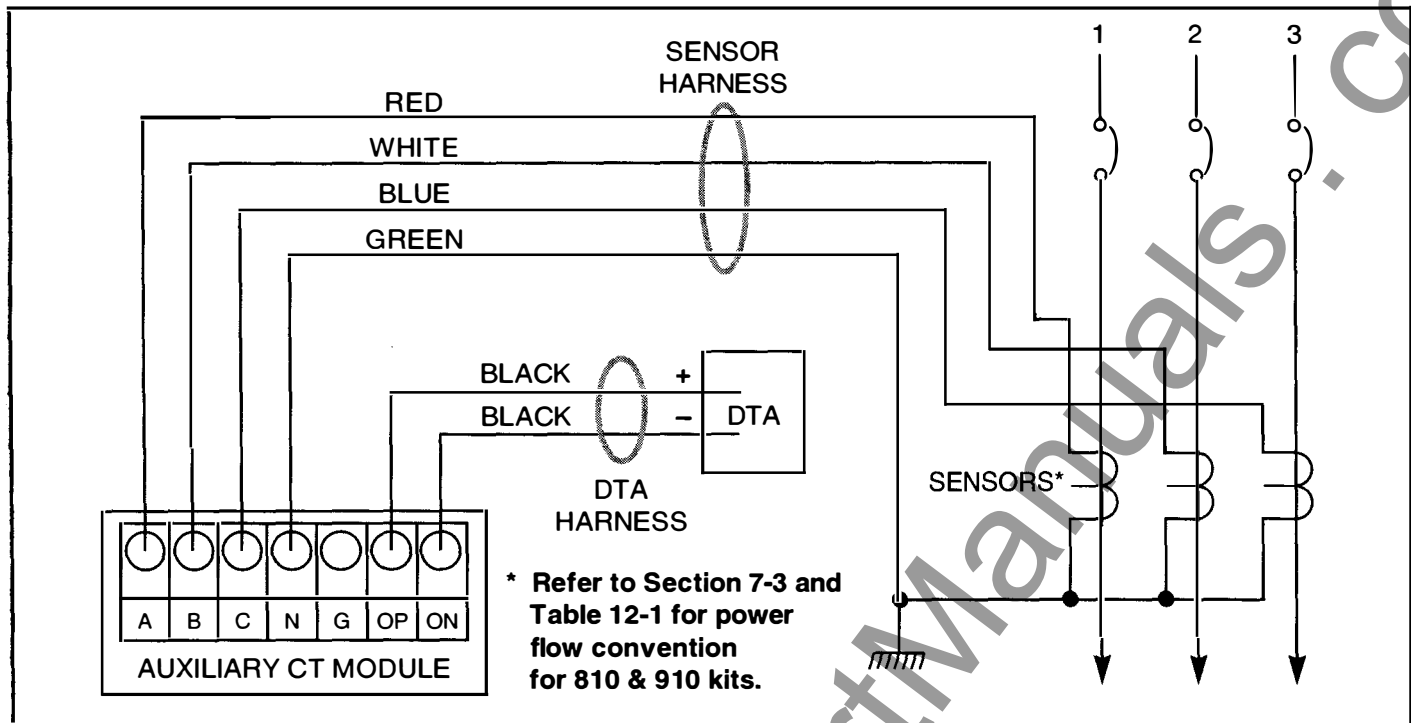

Fig. 12-1 Without Ground 3Ø 3-Wire (LI, LS, LSI)
To cover both 3 and 4 wire system applications, the Sensor Harness includes two wires to permit the 4th wire connection. These two wires (one tan and one green) are readily identifiable; they are the longest two wires that protrude from the Sensor end of the harness. Determine the applicable wiring diagram (Figure 12-1, 12-2, 12-3 and 12-4) for your application, and perform the following.
1. If the retrofit is for a 3-wire system (Figure 12-1 or 12-2), the wires provided for the 4th wire connection are not needed. Remove the terminals from the long ends of the green and tan wires, then use an Ohm meter to confirm the other ends and remove them by sliding them out of the harness.